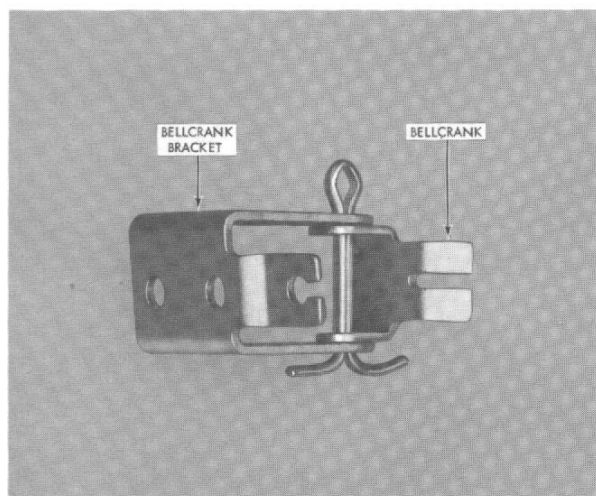

Figure 10. Assembling Bellcrank on Bracket
10. Assemble the Bellcrank (P/N 57404) on the Bellcrank Bracket (P/N 57405) with the Cotter Pin (P/N 105573). Spread the ends of the cotter pin apart to hold the Bellcrank in place on the Bracket (see Figure 10).